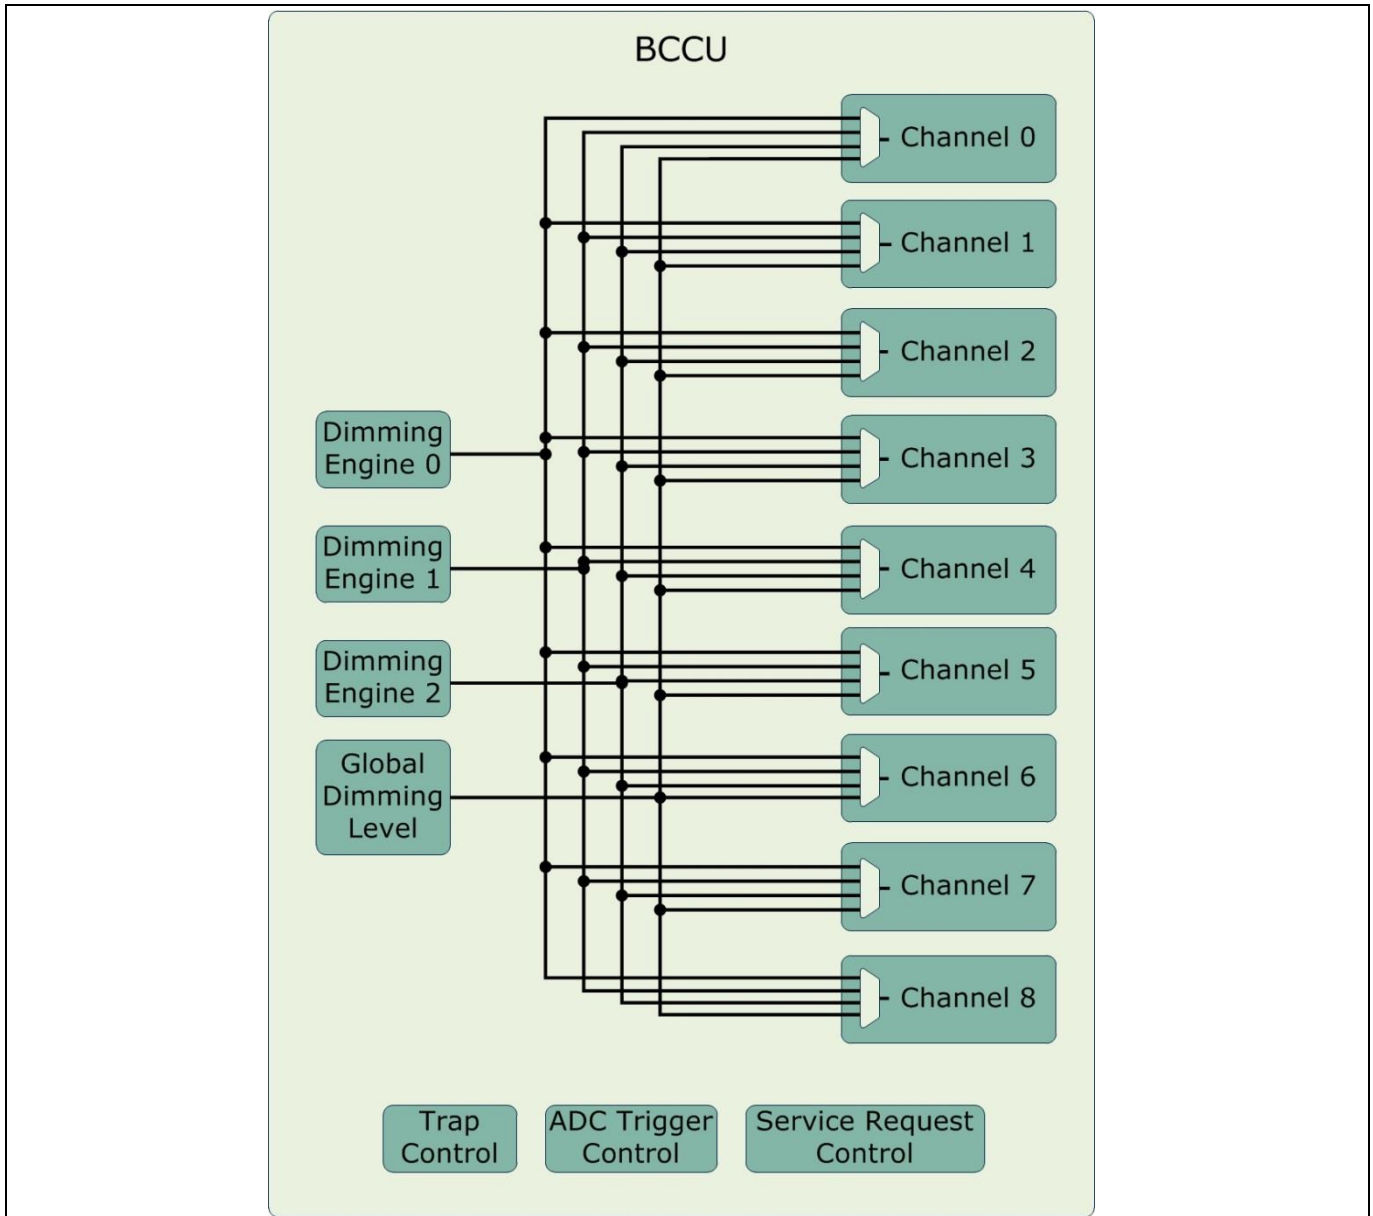

Figure 3 BCCU block diagram
be even to the human eye. A BCCU contains 9 channels, 3 dimming engines (DE) and a connection matrix that links them to each other (Figure 3).